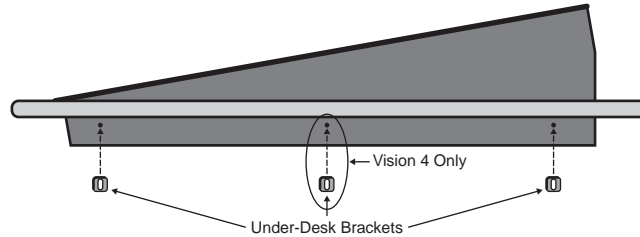

Figure 3.8 Under-Desk Brackets Installation
5. Install the Under-Desk Brackets on both sides of the control panel to secure the control panel in the desk (**Figure 3.8**). There are six (6) Under-Desk Brackets for the Vision 4, and four (4) for all other Vision control panels.